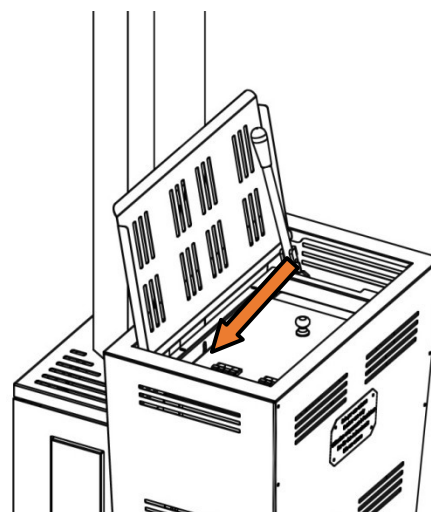

Fig. 12
- Lower the lid **B** and move the handle towards the closed position (fig. 12).